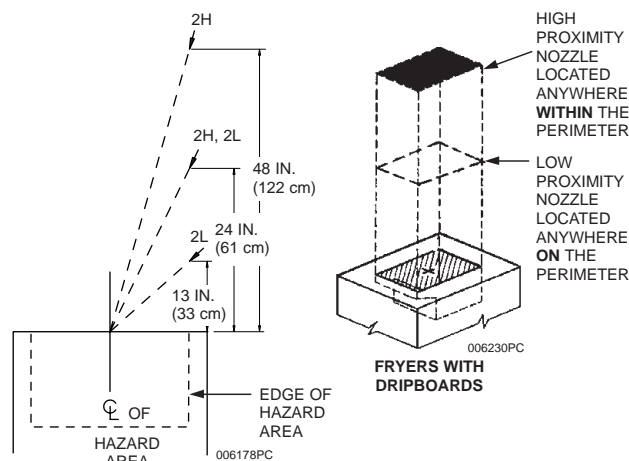

Figure 3-3b
The Model 2H nozzle, Part No. 551028, is used for high proximity fryer protection. This nozzle is a two (2) flow nozzle. The nozzle must be located **anywhere within the perimeter** of the hazard area, 24 in. to 48 in. (61 to 122 cm) above the cooking surface of the appliance and aimed at the center of the cooking area. See **Figure 3-3b**.
nozzle must be located **anywhere on the perimeter** of the hazard area, 13 in. to 24 in. (33 to 61 cm) above the cooking surface of the appliance and aimed at the center of the cooking area. See **Figure 3-3b**.